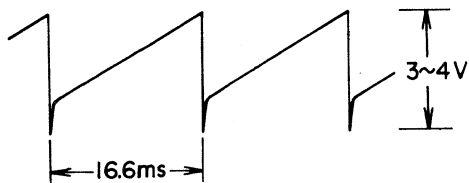

Fig. 2-3 Vertical Deflection Waveforms
- Connect an oscilloscope to Vertical Yoke Terminal of Deflection P.C. Board and confirm that there is a waveform as shown in Fig. 2-3.